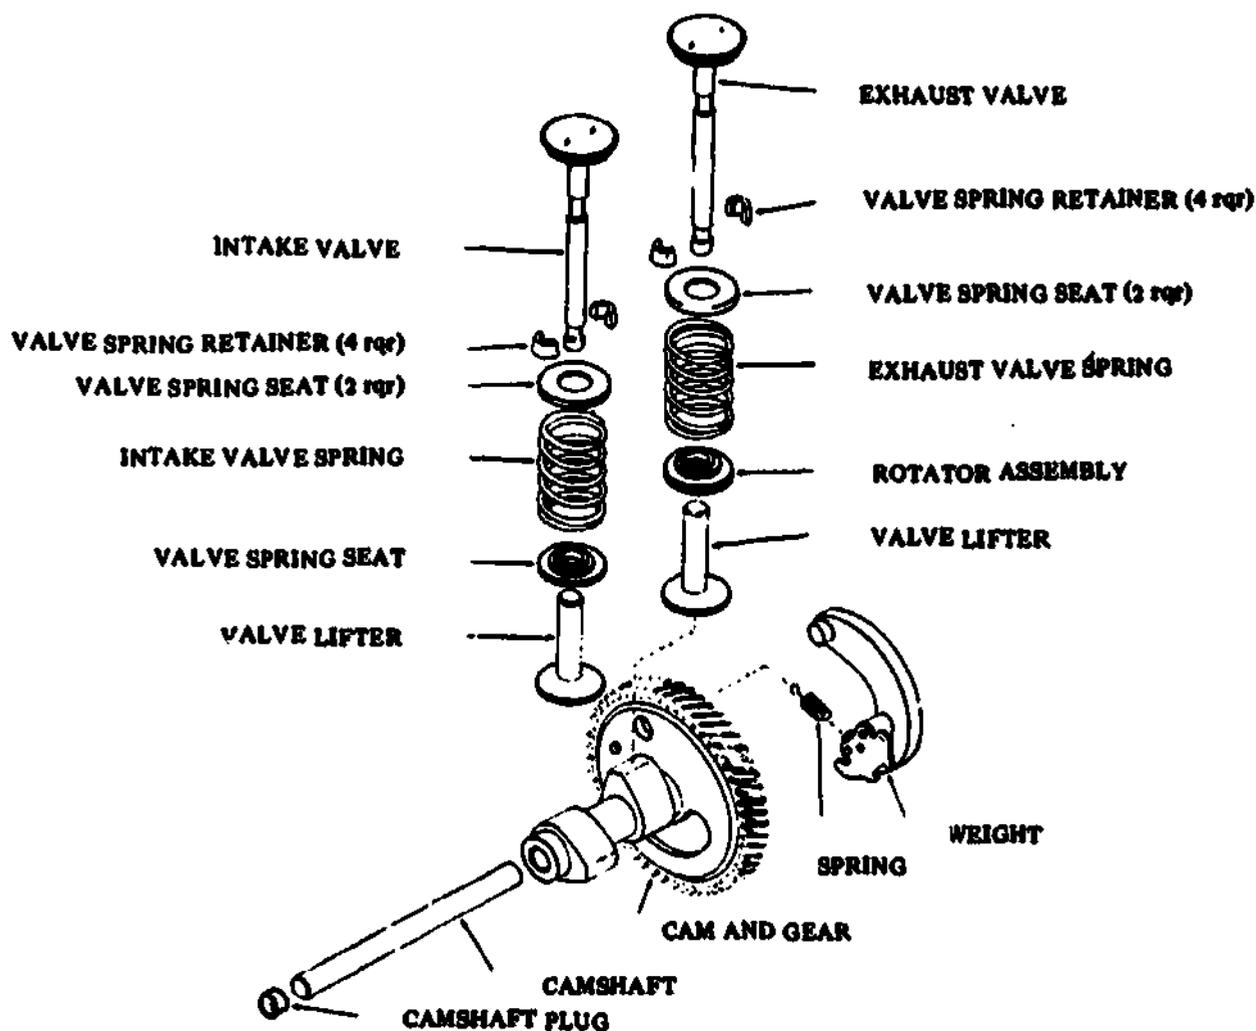

Fig 2-4 . Exploded view of valve mechanism.
- (d) Valve mechanism (fig 2-4). Defective valves can cause the engine to misfire, back-fire, or fail to start. They can be repaired or replaced with little difficulty by removing the cylinder head, carburetor and intake, and the exhaust; then removing the valves for examination and repair. Clean the carbon and gum deposits from the valves and the valve seats. Check the diameter of the valve stem for wear and the valve face for wear or pits. Check the valve seat for pits and cracks. Check the valve springs for tension and breaks. Use a new valve stem and check the valve guides for wear. Replace those parts which cannot be repaired. If the valve face can be repaired and the stem is good, reface it on the valve-refacing machine. Reface the valve seats and clean thoroughly to remove the valve-grinding compound. Install the parts and adjust by turning the engine until one valve spring is completely compressed and then adjust the other. On some models of the engine, the valves must be removed and the end of the stem ground to obtain more clearance. If the engine is completely disassembled, the cam lobes, camshaft gear, and the spark advance for gear-driven, self-contained magnetos should also be checked.